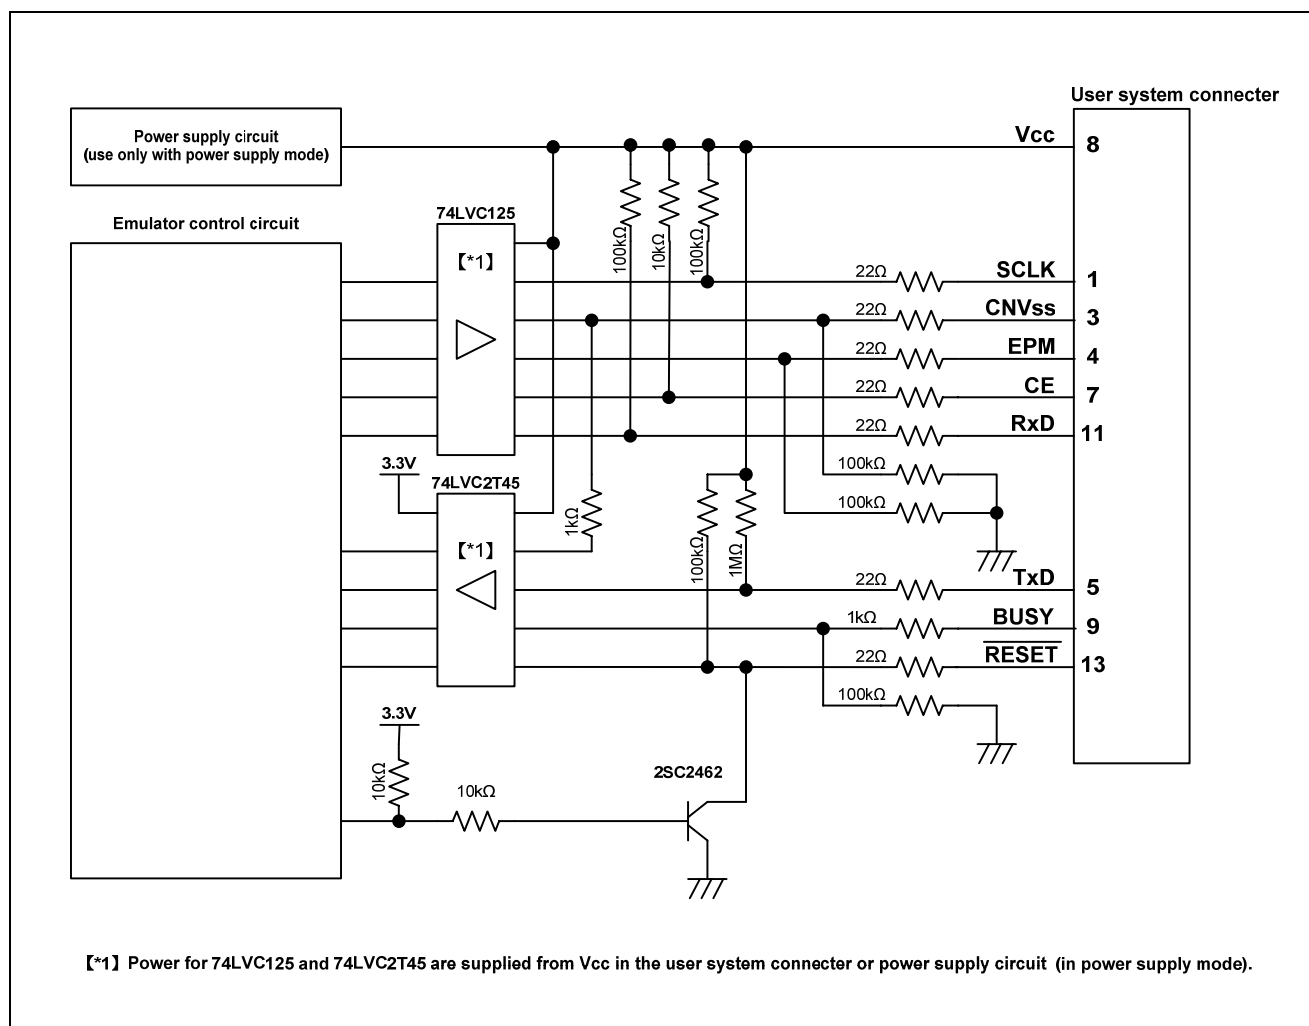

Figure 5.8 Interface Circuit Inside the E8a Emulator (For Reference)
1. Pins P64, P65, P66 and P67 are used exclusively by the E8a emulator. Connect the E8a emulator to the MCU pins. Connect pins P66 and P67 to the E8a emulator after pulling up the MCU pins at the Vcc level. For P64 and P65, pull up the pins at the Vcc level or pull down them according to the MCU pin state after disconnecting the E8a emulator. P64 may be in a Hiz state while the E8a emulator is active. Therefore, set the pin resistance value so the voltage cannot be at the midpoint potential, depending on the voltage dividing of the resistance inside the E8a emulator (Figure 5.8).
For P50 and P55, pull up the pins at the Vcc level or pull down them according to the MCU pin state after disconnecting the E8a emulator. P50 and P55 may be in a Hiz state while the E8a emulator is active. Therefore, set the pin resistance value so the voltage cannot be at the midpoint potential, depending on the voltage dividing of the resistance inside the E8a emulator (Figure 5.8).
9. Figure 5.8 shows the interface circuit in the E8a emulator. Use this figure as a reference when determining the pull-up resistance value.